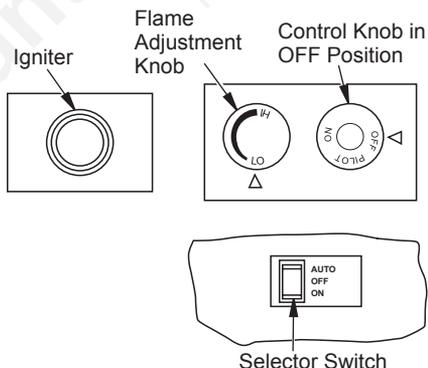

Figure 35 - Control Knob, Igniter Button and AUTO/OFF/ON Switch
4. Press in and turn control knob clockwise  to the OFF position (see **Figure 35, Page 24**).
5. Wait five (5) minutes to clear out any gas. Then smell for gas, including near the floor. If you smell gas, STOP! Follow "B" in the safety information, column 1. If you don't smell gas, go to the next step.
- Press in and turn control knob counterclockwise  to the PILOT position. Press in control knob for five (5) seconds (see Figure 35).